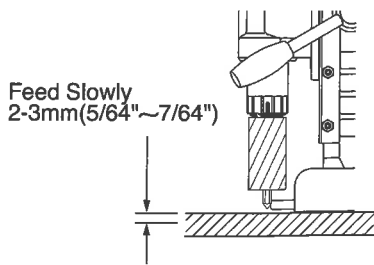

Fig. 24
- For the first 2 to 3mm (5/64" - 7/64") of the drilling, operate the drill gradually and only apply a light force to the Rod Handle. (Fig.24)